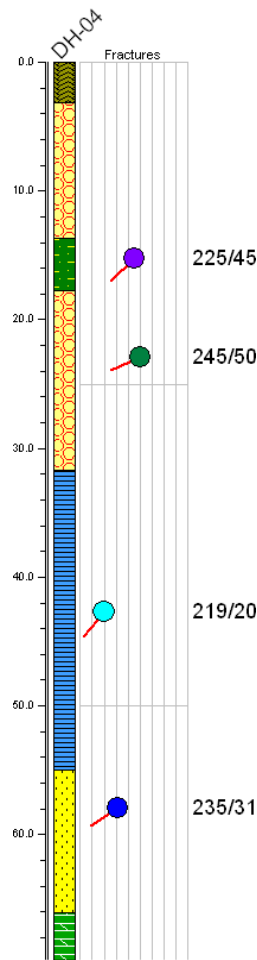

Figure 4
- A striplog for the selected borehole will now appear (Figure 4). To adjust the appearance of this log, click on the Main Options tab, make the appropriate changes, and click on Continue button again. Repeat this process, if necessary, until you are satisfied with the appearance of the striplog.